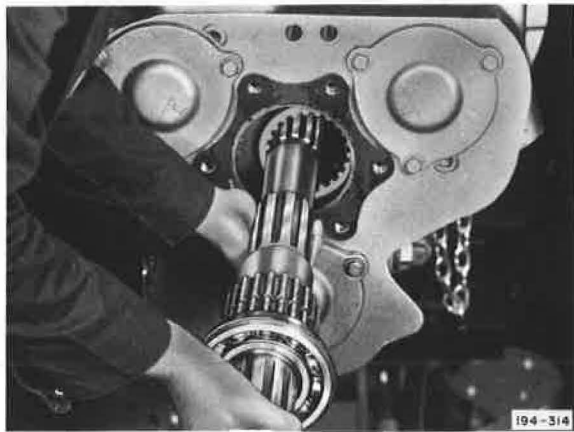

Figure 5-200. Installing Mainshaft
14. Start mainshaft in case through rear bearing opening. See Figure 5-200. Advance shaft through reverse speed gear, second and third speed sliding clutch and fourth speed gear until rear bearing positioning snap ring seats against case. Install speedometer drive gear on shaft. Apply sealer compound and install rear bearing cover gasket and cover. Install cover cap screws and tighten to recommended torque. Oil lip of cover oil seal, and install drive flange and nut.